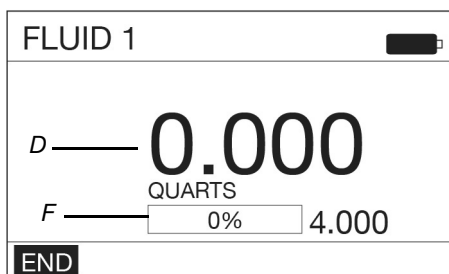

Fig. 70
2. If the meter recognizes the fluid voucher, the DISPENSE screen shown in FIG. 70 displays.
During the dispense the word END (FIG. 70) is highlighted on the lower left corner of the dispense screen. To interrupt the fill during dispensing: